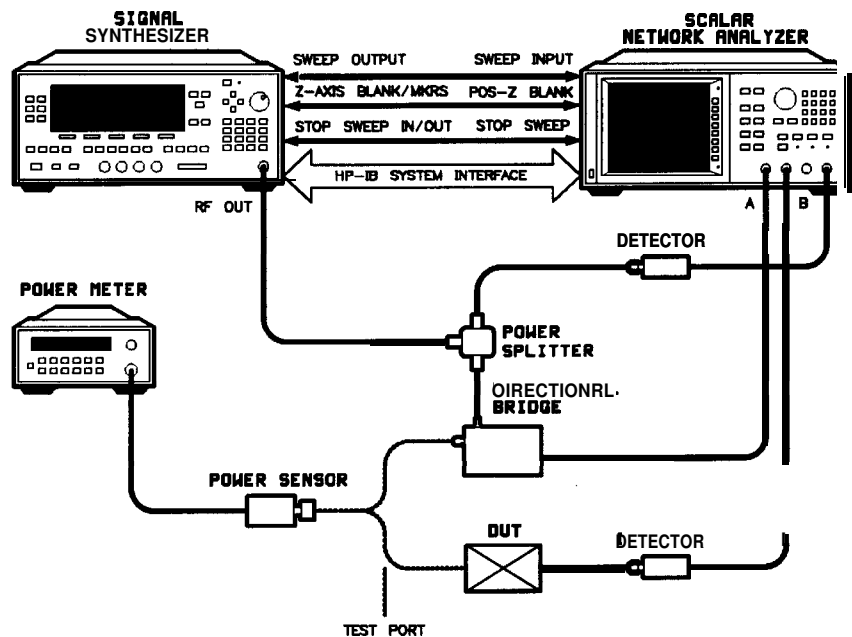

Figure 1-21. Scalar System Configuration
The following example demonstrates how to setup a scalar analysis measurement (using an HP 8757 Scalar Network Analyzer) of a 2 to 20 GHz test device such as, an amplifier. User flatness correction is used to compensate for power variations at the test port of a directional bridge. Follow the instructions to set up the synthesizer, then configure the system as shown in Figure 1-21.
1. The equipment setup shown in Figure 1-21 assumes that you have followed the steps necessary to correctly level the configuration. If you have questions about external leveling refer to earlier paragraphs titled, "Externally Leveling the Synthesizer ."